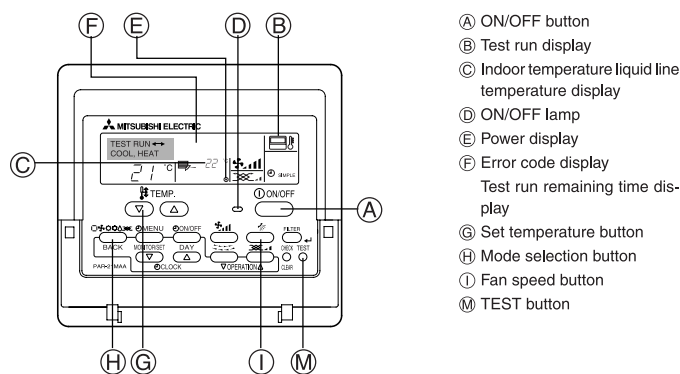

Fig. 7-1
7.2.1. Using wired remote controller (Fig. 7-1)